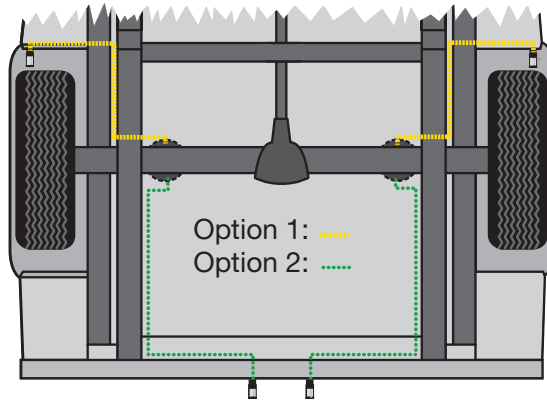

fig. 13
1. Choose a convenient location for mounting the inflation valves (Fig. 13). Popular locations for the inflation valve are: